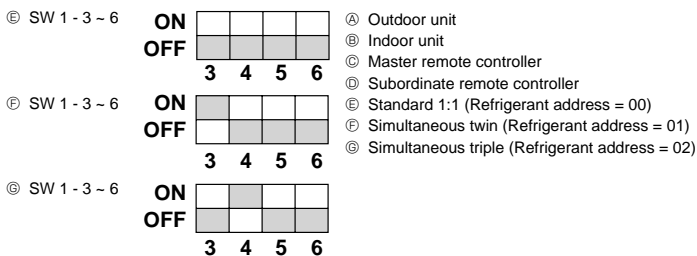

Fig. 9-1
- Because the unit automatically stops in about 2 to 3 minutes after the refrigerant collecting operation (LED1 and LED2 are lit), be sure to quickly close the gas stop valve. When LED1 and LED2 are lit and the outdoor unit is stopped, open the liquid stop valve completely, and then repeat step ② after three minutes have passed.
9. System control (Fig. 9-1)